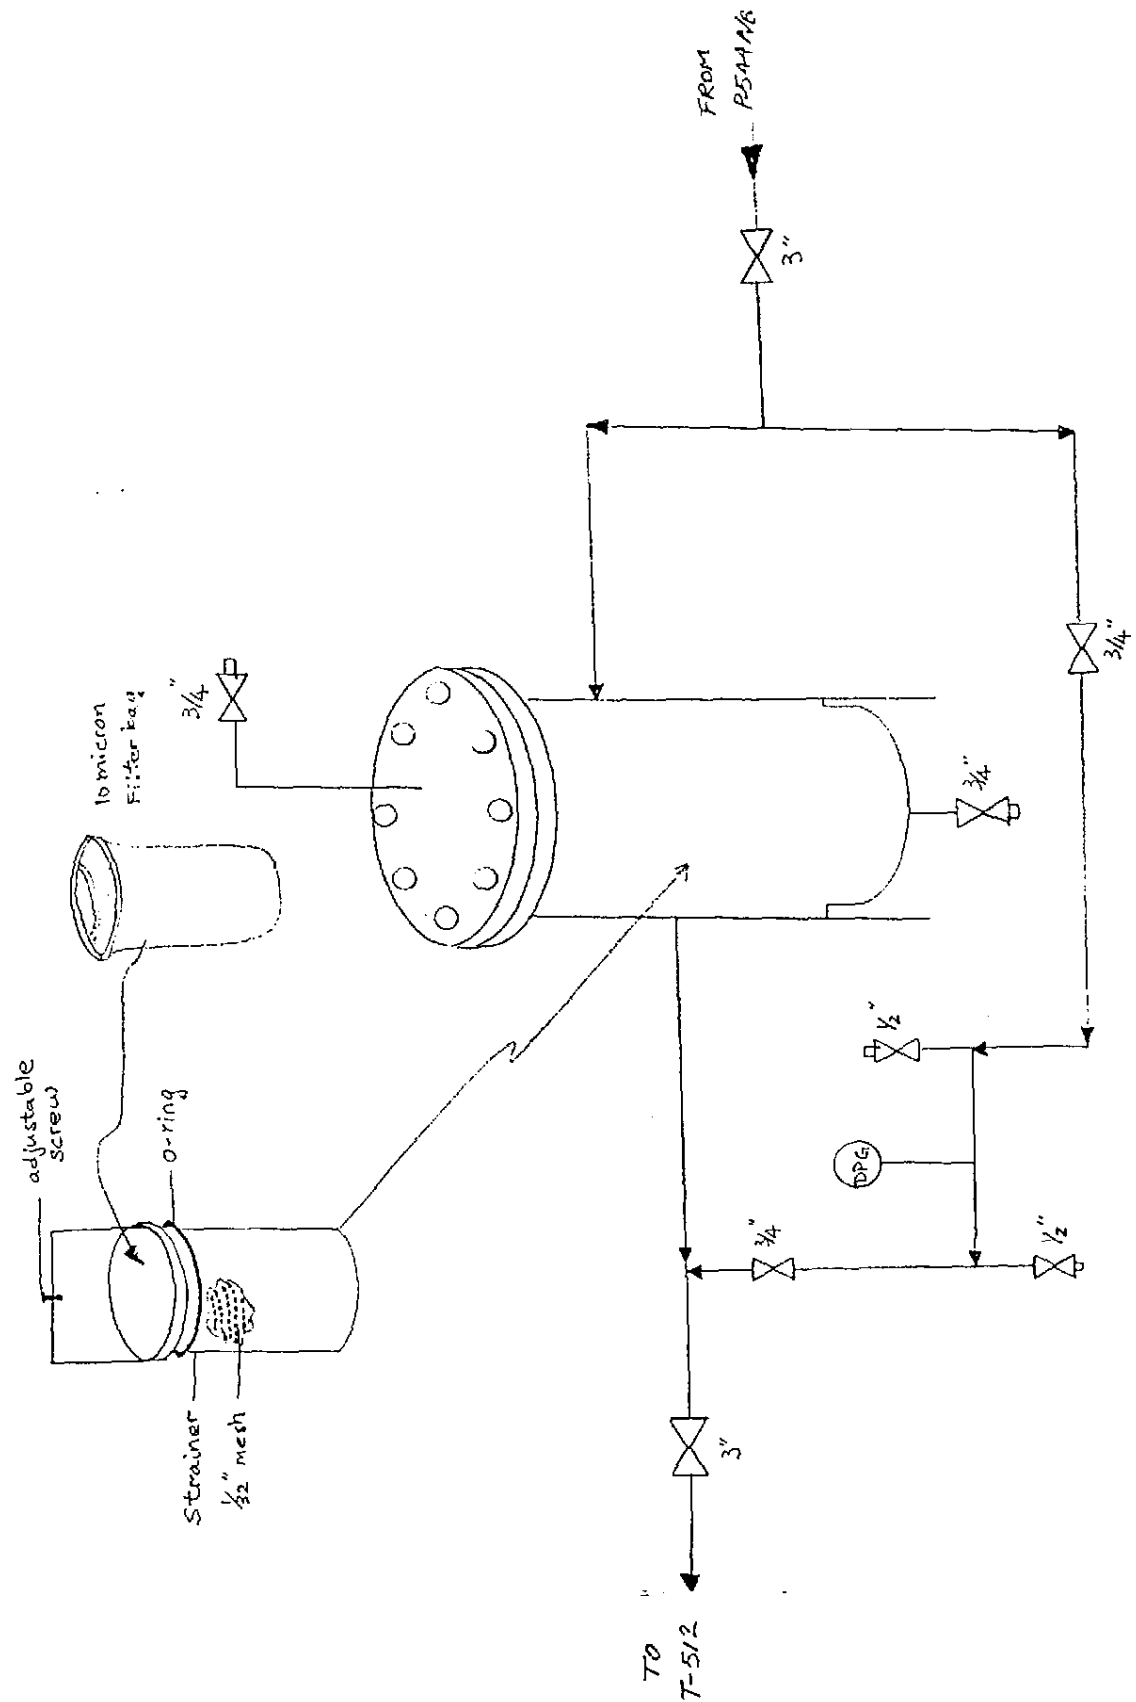

Figure 10. P/I of STRAINER
4. Open the 3" valve upstream of F-544A (Figure 10).
3. When level is low for P-544A then connect a flexible hose from T-544 upstream of the baffle to valve B2 of P-500 (Figure 10).